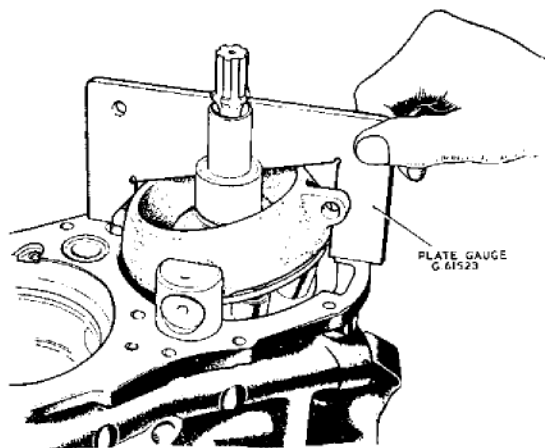

Fig. 23. Checking the camplate angle
232. Fit the fuel adjustment screw (30) into the pump body to contact the camplate. Set the camplate angle at 15 deg. and lock the adjustment screw, using plate gauge G.61523 (*fig. 23*) for this projection.